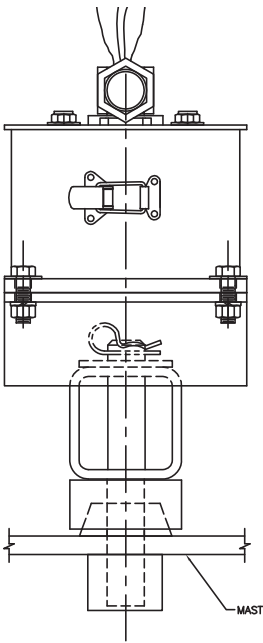

Figure 6
5. 360 degree collector (Figure 6)